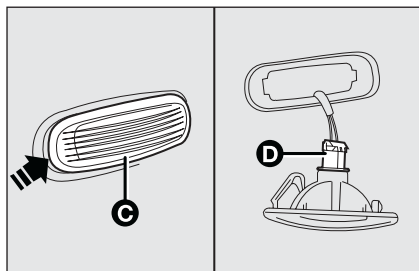

fig. 24
- lever in the point shown by the arrow to compress the catch and remove the unit **C**-fig. 24;